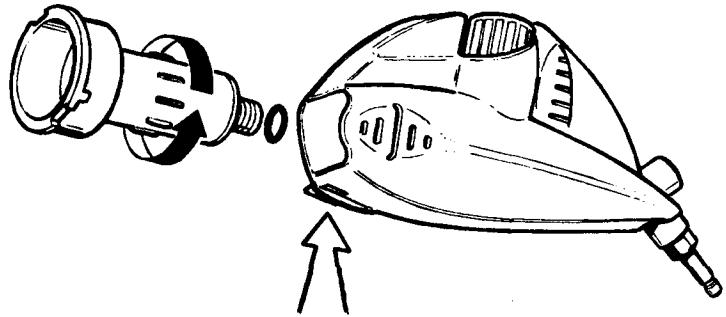

Fig. 3
1. Press the release tab (arrowed in Fig 3) to unlock the filter.